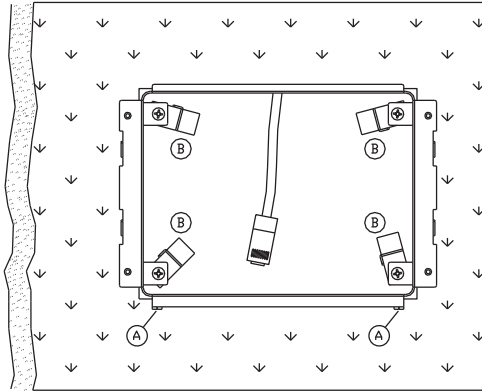

Figure 2
- a. Insert the mounting bracket into the wall cutout with the flanges (marked "A" in Figure 2) at the bottom and retention clips (marked "B" in Figure 2) rotated to the interior of the bracket as shown.